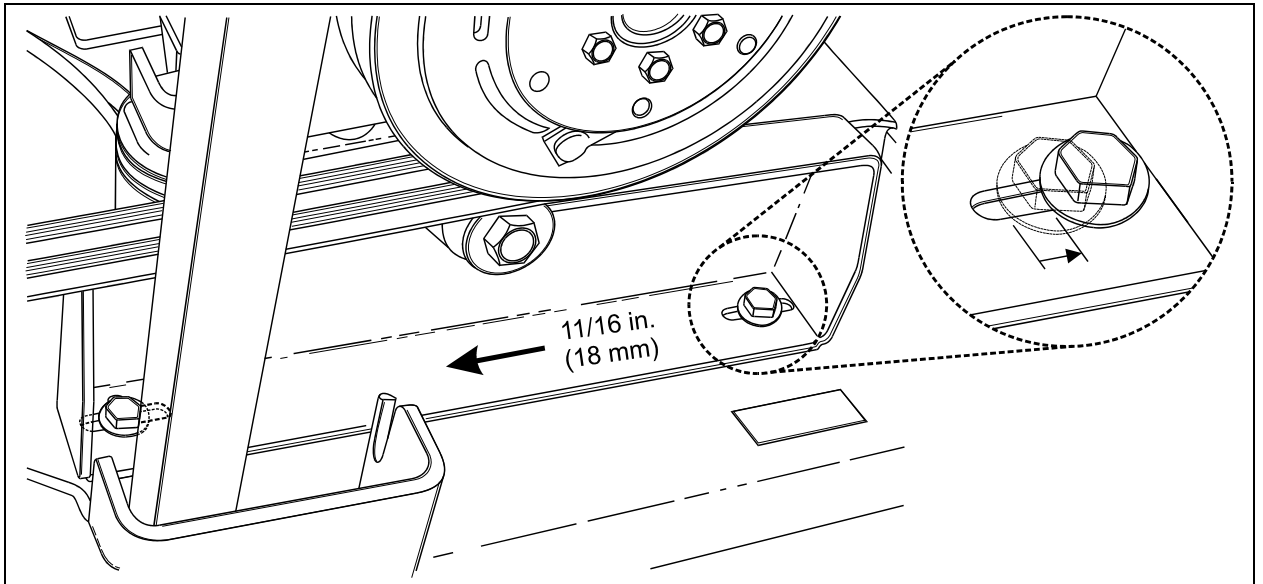

FIGURE 30: MOVING THE A/C COMPRESSOR TOWARDS THE ENGINE
5. Loosen the bolts retaining the A/C compressor mount and slide the complete assembly by 11/16 inch (18 mm). It may be necessary to enlarge the slots on the bracket or on the vehicle frame to allow for the displacement (refer to figure 30);